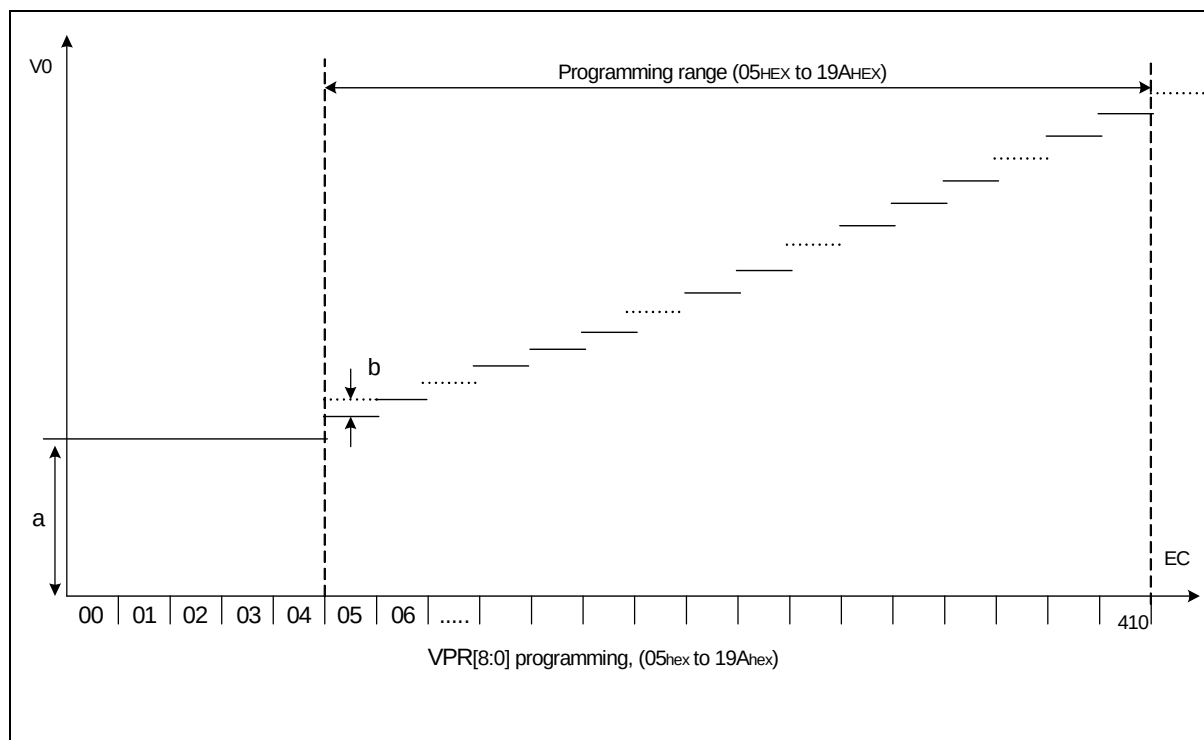

Fig. 7.10.2 V₀ programming range
The VPR[8:0] value must be in the V₀ programming range as given in Fig.7.10.2. Evaluating equation (1), values outside the programming range indicated in Fig.7.10.2 may result.